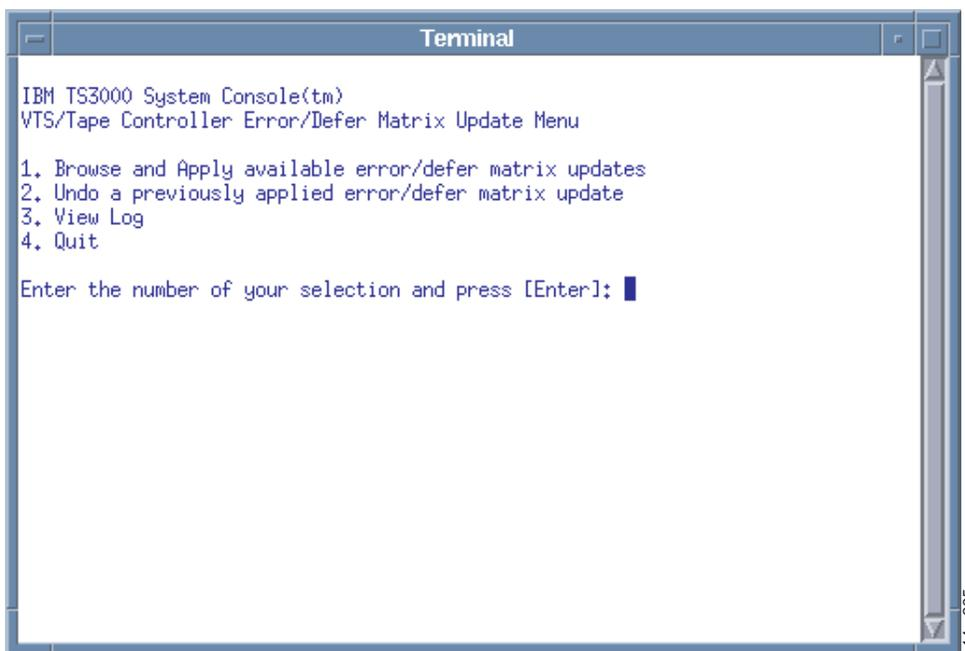

Figure 238. VTS, VTC, or Tape Controller Error or Defer Matrix Update Menu
2. Select **System Console Actions > Error/Defer Matrix Updates** to start the Error and Defer Matrix updates tool. The dialog window in Figure 238 displays. This tool enables copying error/defer matrix updates at the system console to attached VTS, VTC, or tape controller systems over the local network.